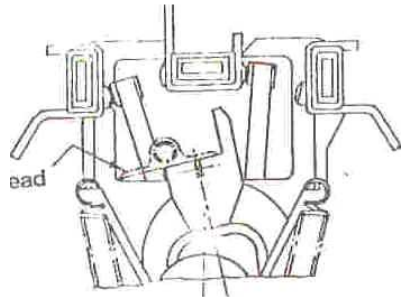

Fig.2.8- Fingers fully knuckled with stationary contacts
- Operate the switch manually till the finger fully wipes with the outside stationary contact and again measure the angle of rotation of the operating lever from its neutral position as shown in fig. 2.8.